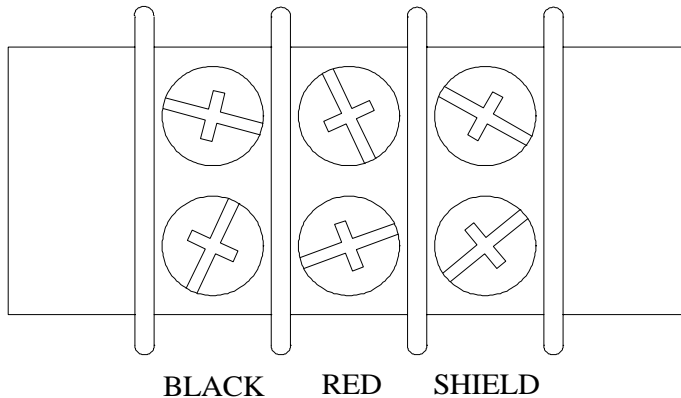

Figure 11 T1 WIRING DIAGRAM
3. Connect the control cable to terminal strip T1 (located to the left of the test jack S11) according to the diagram in figure 11.